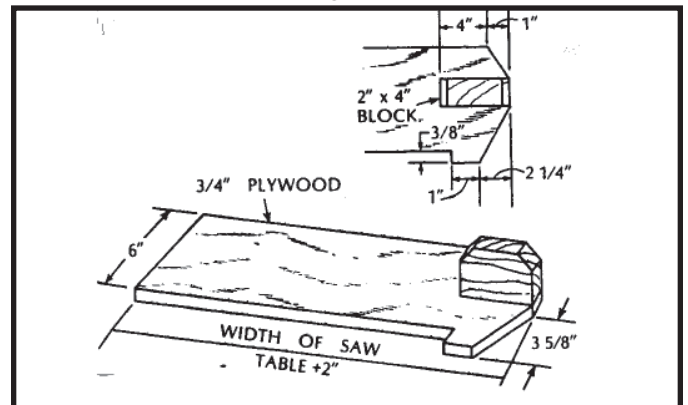
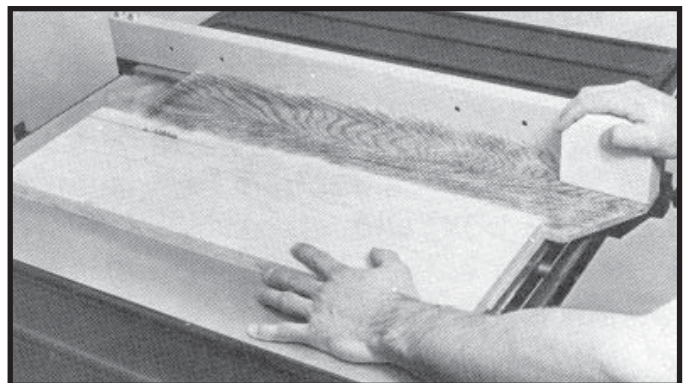

Fig. S10
Fig. S11
4. Ripping narrow pieces can be dangerous if not done carefully. If possible, rip the narrow piece from the larger piece. If the workpiece is short enough, use a pushboard. (A pushboard can be constructed as shown in Fig. S10 and used as shown in Fig. S11.)
NOTE: In Fig. S11, the guard and splitter have been removed for clarity. Guard and splitter should be used when ripping.